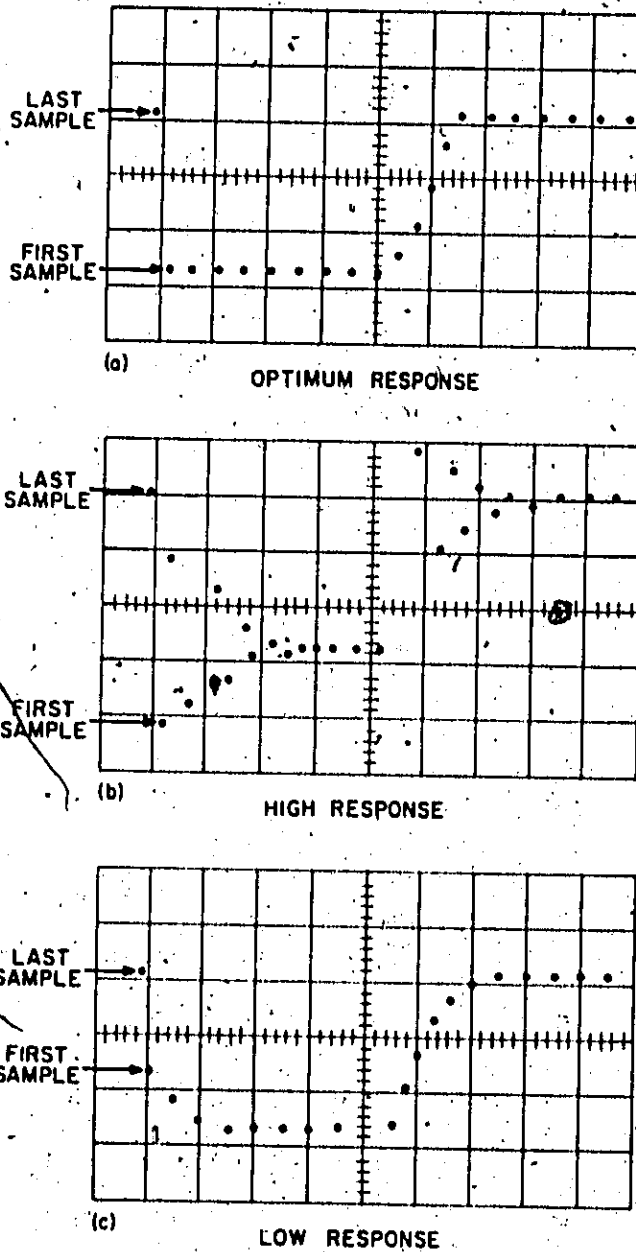

Figure 3-3. Optimizing Sampling Efficiency
3-27. INITIAL ADJUSTMENT. If a Model 1411A and sampler are purchased together, they will be calibrated together at the factory. Upon receiving the Model 1411A and sampler, if the sampling efficiency is not 100%, use the RESPONSE control to reset the loop gain to 100% efficiency (as shown in Figure 3-3, waveform a).
g. Set NORM-SMOOTHED switch to NORM and adjust SMOOTHING (screwdriver adj) for 100% sampling efficiency as shown in Figure 3-3, waveform a.
the vertical distance between the dots is small compared to the the amplitude of the signal under test, there will be no loss of detail. When risetime is changed from normal setting, it may be desirable to recheck sampling efficiency as outlined in Figure 3-3.